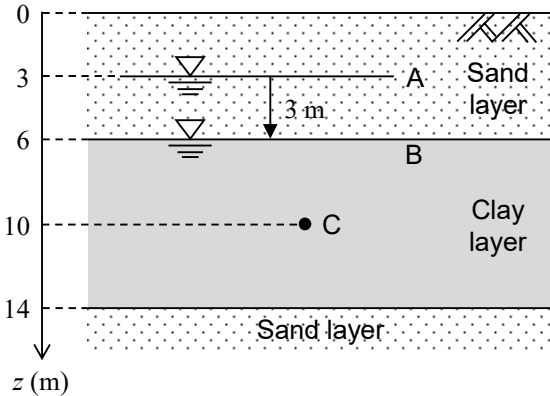
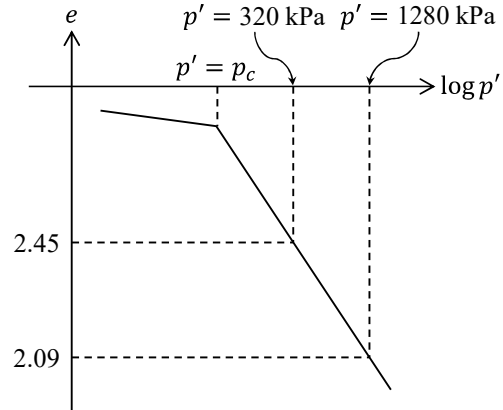

Fig. 4
Fig. 5
Consider a normally consolidated clay layer sandwiched by sand layers at both the top and bottom, as shown in Fig. 4. Due to pumping from a well in the upper sand layer, the groundwater level, initially located at point A, 3 meters below the ground surface, has decreased very quickly to point B (the boundary between the sand and clay layers). Answer the following questions. Note that the unit weight of water is 9.80 kN/m^3 , the total (wet) and saturated unit weights of the sand are 18.0 kN/m^3 and 20.0 kN/m^3 , respectively, and the saturated unit weight of the clay is 15.0 kN/m^3 . Assume that the consolidation process follows Terzaghi's one-dimensional consolidation theory.
- (1) Draw the distribution diagrams of total stress, effective stress, and pore water pressure within the ground ($0 \leq z \leq 14 \text{ m}$) both before and after the groundwater level decline (after a sufficient amount of time). Make sure to indicate the values at the inflection points of the lines so that the distribution diagrams are uniquely determined.
- (2) An undisturbed sample was taken from the clay layer before the groundwater level decline, and a consolidation test was conducted. The relationship between void ratio and consolidation pressure (e - $\log p'$ curve) obtained from the test is shown in Fig. 5. Based on this result, calculate the final settlement [cm] of the entire clay layer due to the groundwater level decline. Assume that the initial void ratio of the clay layer, e_0 , is 1.80 and that the stress and strain at the center of the clay layer (point C) can be used as representative values.
- (3) The consolidation test results showed that the time required to reach an average degree of consolidation of 90% was 577 seconds. Given the time factor $T_v = 0.848$ for an average degree of consolidation of 90%, calculate the coefficient of consolidation C_v [cm^2/day]. The clay sample has a diameter of 6.00 cm and a height of 2.00 cm, and the test was conducted under double-sided drainage condition.
- (4) Based on the results of the consolidation test, calculate the time [day] required for the clay layer to reach an average degree of consolidation of 90%.
- (5) Assume that the bottom of the clay layer in Fig. 4 is an impermeable rock layer instead of a sand layer. If the temperature of the clay layer is artificially increased (reducing the viscosity of pore water), doubling the permeability coefficient without changing the volumetric compression characteristics of the clay layer, how will the final settlement and the time required for settlement obtained in (2) and (4) change (increase/decrease/remain unchanged)? Explain briefly with reasons.
- (6) Consider the state before the groundwater level decline in Fig. 4 again. As a preloading method, an embankment was constructed on the ground surface very quickly, and after a sufficient amount of time for the settlement of the clay layer develop and converge, the embankment was removed very quickly. Calculate the uniform load [kPa (= kN/m²)] due to the embankment required to achieve an overconsolidation ratio of 2.50 at point C after the embankment removal (after a sufficient amount of time). Also, if the groundwater level is lowered from position A to position B after this, how will the vertical displacement of the clay layer due to the groundwater level decline compare to the final settlement obtained in (2) (increase/decrease/remain unchanged)? Explain briefly with reasons.